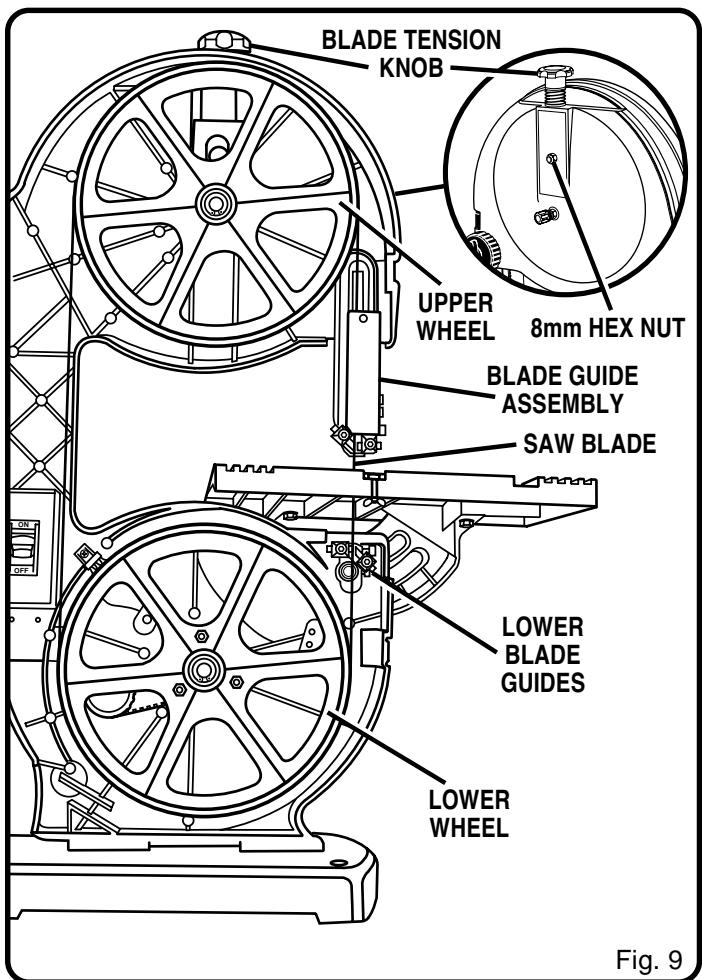

Fig. 9
- Release blade tension by loosening the 8 mm hex nut then turning the blade tension knob counterclockwise. *See Figure 9.*